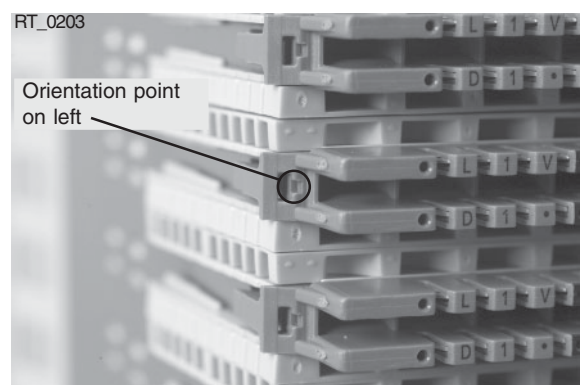

Fig. 1
When blocks are mounted vertically, the orientation point must be located on the left side (Fig. 1).
- a) For vertically mounted xDSL modules the orientation point must be located on the left (Fig. 1+10).